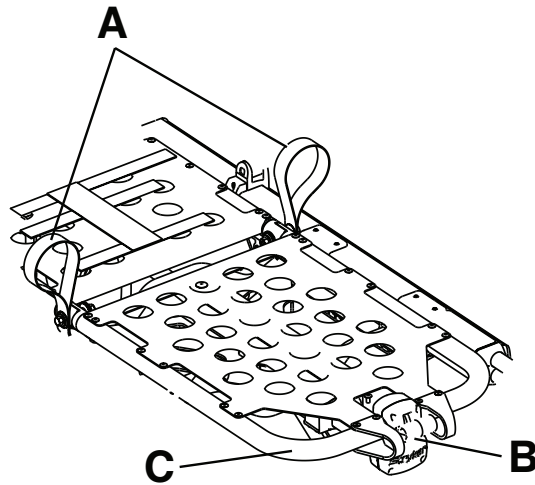

Figure 13 – Gatch
1. Lift either of the red lifting loops (A) until the knee Gatch is in the highest position (Figure 13).
To lower the knee Gatch, lift either of the red lifting loops (A) to relieve pressure on the locking mechanism. While you hold the loop, push on the red footrest release handle (B) until the support bracket is released (Figure 13). Lower the knee Gatch until it lays flat.
To raise the knee Gatch in Trendelenburg, lift the footrest frame (C) as high as possible until the frame locks into place (Figure 13). The support bracket automatically connects when you release the frame.
To lower the knee Gatch in Trendelenburg, lift the footrest frame (C) and, while you hold the frame, lift up on the red footrest release handle (B) until the frame releases the support bracket (Figure 13). Lower the footrest until it lays flat.